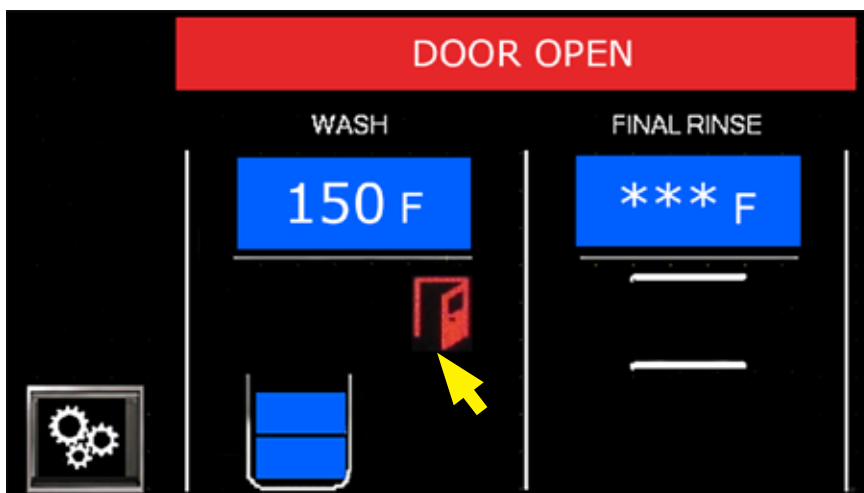

Fig. 22 - Door Open Fault
**DOOR OPEN** A door is open. Close the door. If Fault does not clear, then inspect the door magnet. Make sure door is fully closed. The door icon disappears and ready status bar appears. Press green start button to resume normal operation, Fig. 22.